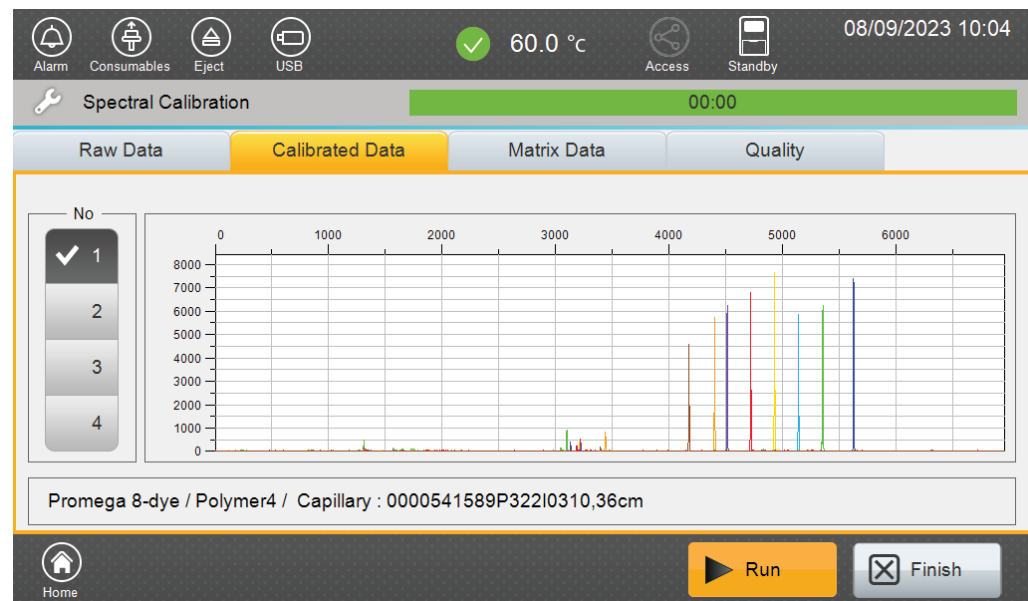

Figure 11. Spectral Calibration 'Calibrated Data' tab screen.
- The 'Calibrated Data' tab can be used to view the matrix peaks with both baseline and spectral applied for each capillary (Figure 11).